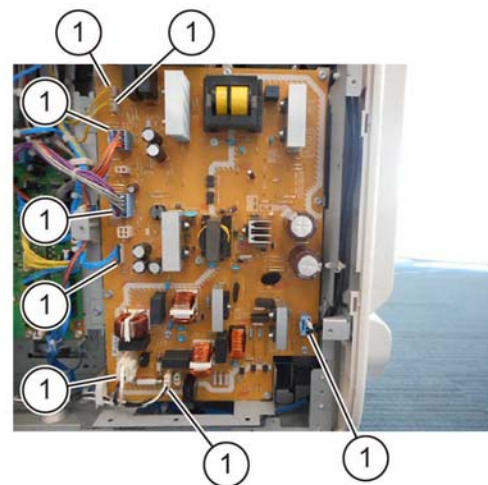

Figure 2 Connectors
3. Disconnect all connectors from the LVPS, **Figure 2**.